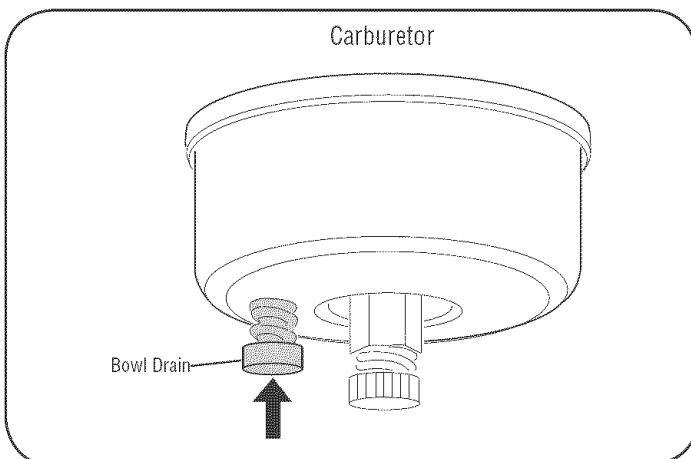

Figure 19
3. Drain carburetor by pressing upward on bowl drain, located below the carburetor cover. See Figure 19.